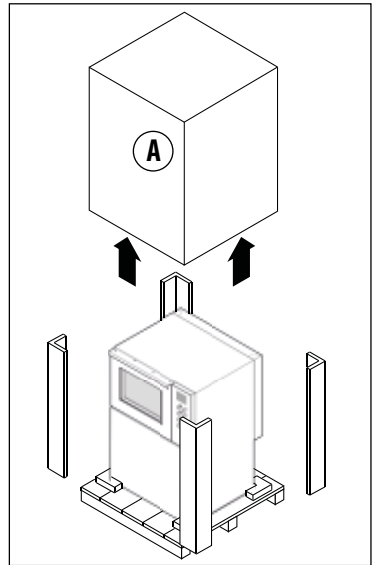

Fig. 5
- Remove the “hat” container (A) extracting it from the top (Fig. 5).